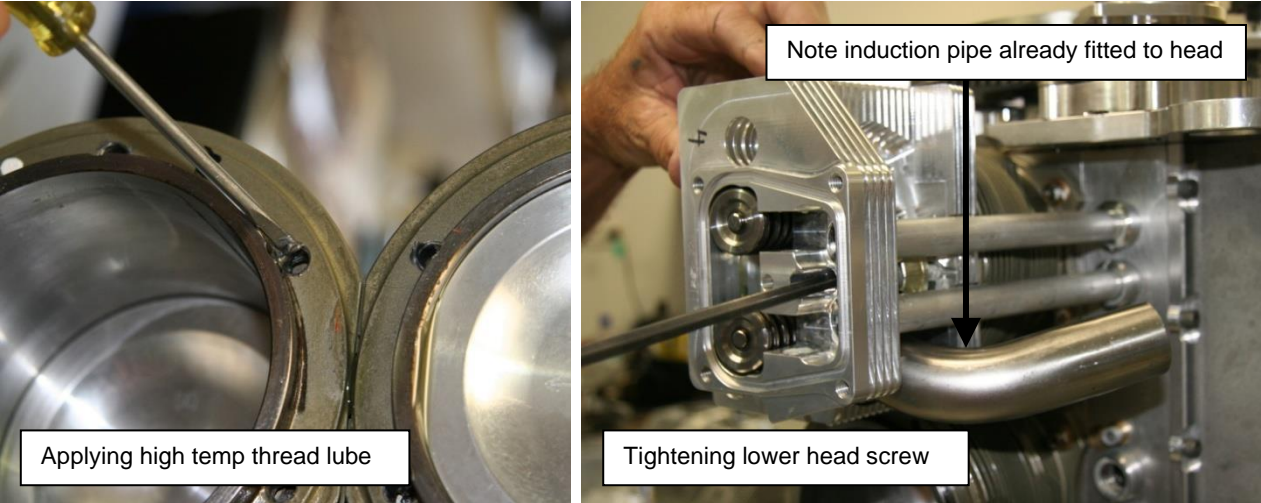

Figure 192 – Applying Thread Lubricant & Tightening Lower Head Screw
10. Apply high-temperature lubricant to the threads of the cylinder and the cylinder head screws – these are susceptible to rust which can lead to inaccurate bolt tension readings later in service. The lubricant is designed to prevent rust on the threads and to ensure a consistent torque setting during the engine's service life. Figure 192 refers.
11. Install the cylinder head bolts and washers with a light tension setting. In particular the lower head screw (which is accessed via the hole inside the rocker cavity) must be left loose – the special washer under this screw can rub against the rocker tubes and so must be carefully positioned to avoid this. Figure 192 (right) shows this screw being tightened.